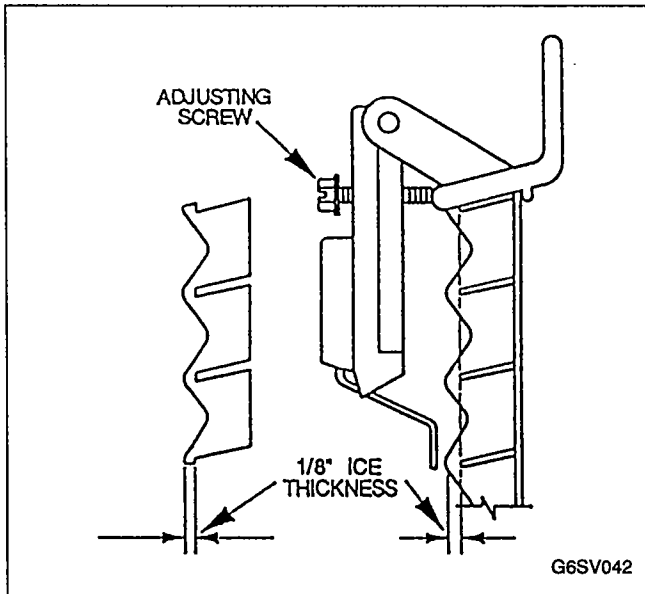

FIGURE 23. ICE THICKNESS CHECK
1. Turn adjustment screw (Figure 23) on ice thickness probe clockwise to increase thickness, counter-clockwise to decrease thickness.